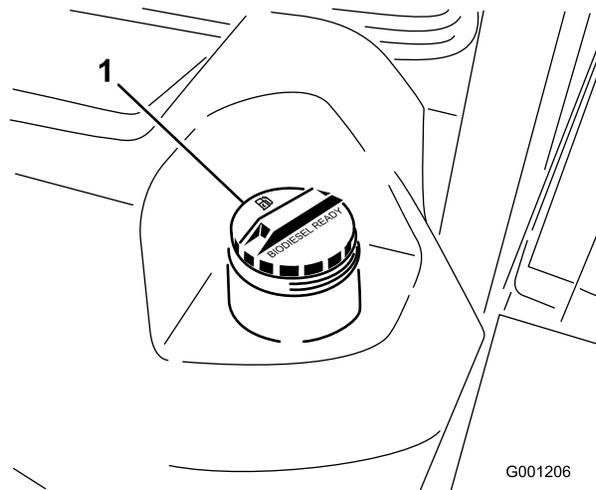

Figure 26
2. Using a clean rag, clean area around fuel tank cap. Remove cap from the fuel tank (Figure 26).